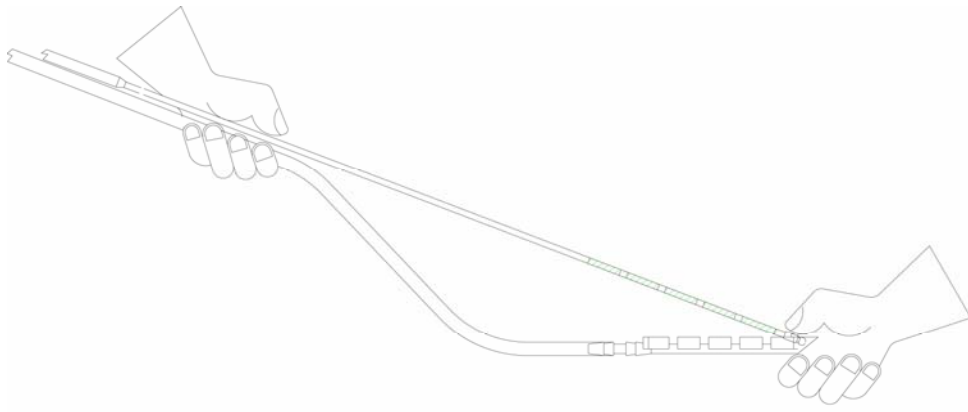
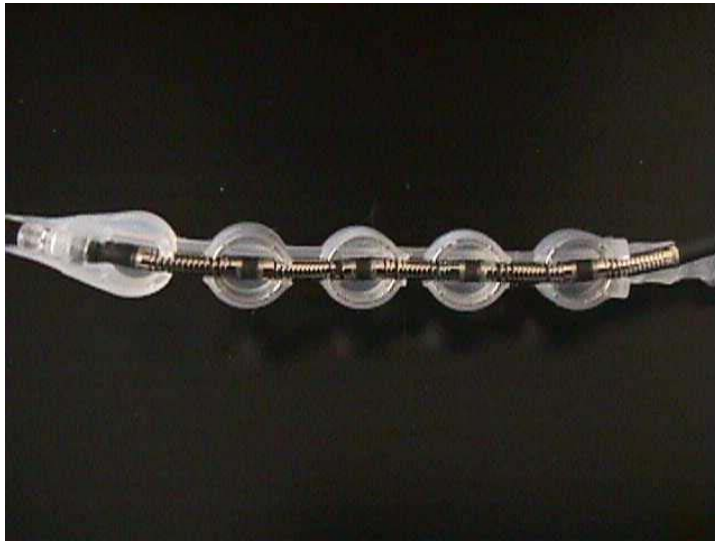

Figure: 1
Figure 5: Cobra Adhere Probe and Stabilizer Alignment – Close-up View of Distal End
4. Attach the Probe onto the suction Stabilizer by lining up the clear tip (Probe) and exposing the suture ring. Install by gently pushing the tip of the probe into the distal end of the suction stabilizer. See Fig 1. Figure 5 shows a close-up view of the proper alignment of the Probe and Stabilizer